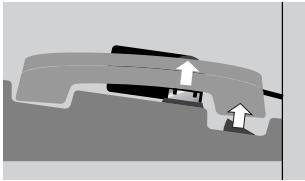

Figure 2-6. Completing the Setup.
1. With the Hookswitch's lifting termination switch in position 2, press the red button on the remote. The film will lift up the telephone handset. If you hear a dial tone in your headset, the setup is complete (Figure 2-6).